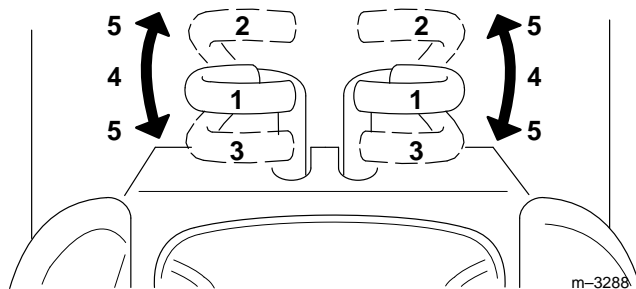

Figure 9
2. To go forward, slowly push the motion control levers forward (Fig. 9).
To go straight, apply equal pressure to both motion control levers (Fig. 9).
To turn, decrease pressure on the motion control lever toward the direction you want to turn (Fig. 9).
2. To go backward, slowly pull the motion control levers rearward (Fig. 9).